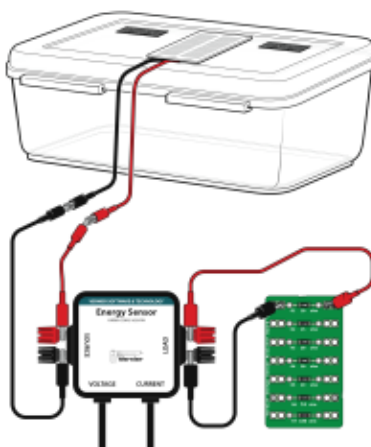

Figure 5
5. Set up the Solar Panel and the Solar Energy Exploration Kit box (see Figure 5).
- a. Use a **black** wire lead to connect the black wire from the Solar Panel to the black Source terminal (see Figure 5).